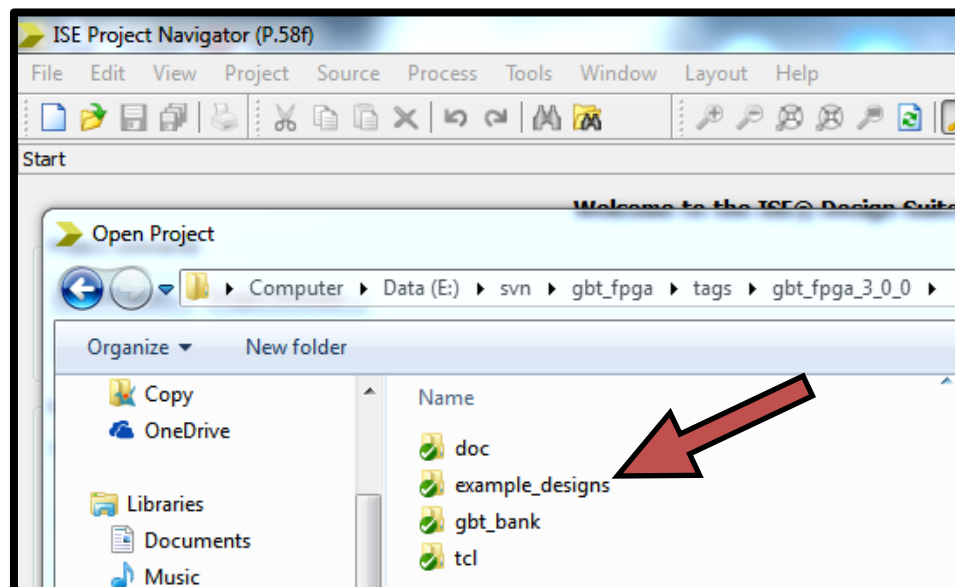

Figure 26: Root folder of the GBT-FPGA source files from the SVN repository
10. Go to the folder where the GBT-FPGA Core source files were downloaded from the GBT-FPGA SVN repository (see Figure 26).